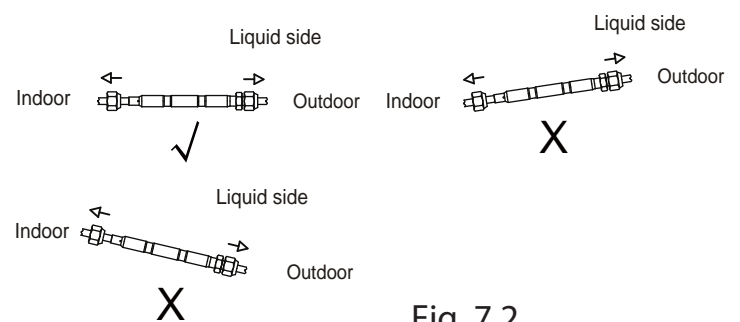

Fig. 7.2
- Refer the diagram when installing.(See Fig. 7.2)